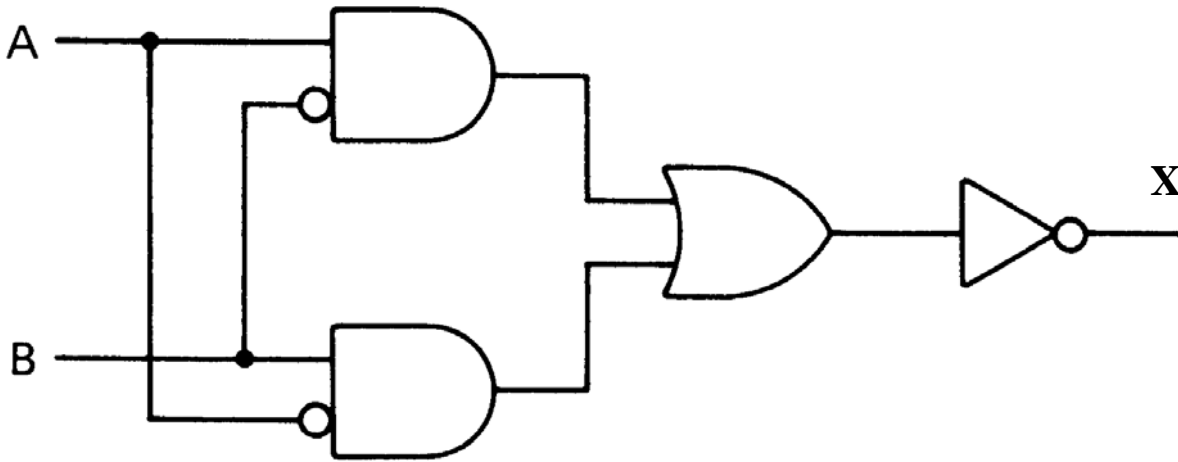

FIGURE 9.3 – Logic circuit
9.6 Determine the simplified Boolean expression for the logic circuit of FIGURE 9.3 below and draw the equivalent logic circuit for your answer.